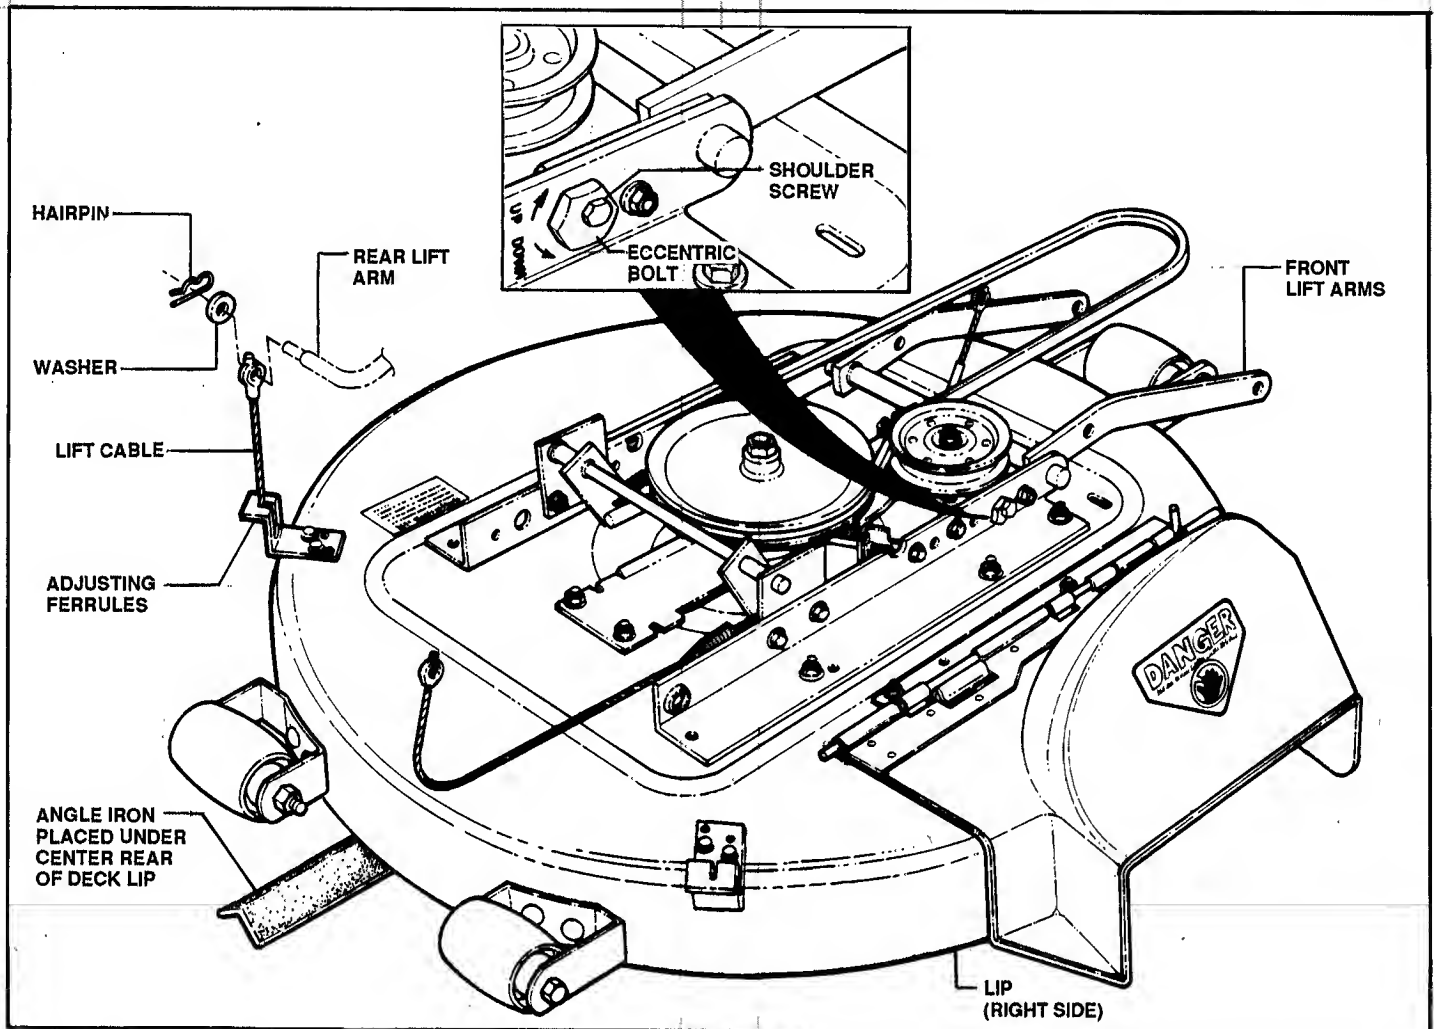

FIGURE 31
- (1) Place a piece of angle iron under lip at center rear of deck. See Figure 31 on Page 13.
- (2) Pull the pins and remove the LIFT CABLES from the REAR LIFT ARMS.
- (3) Measure distance between deck lip (at center of left side) and the floor surface. Compare to the distance from right side deck lip to floor.
- (4) If required, adjust side-to-side level of mower deck by loosening SHOULDER SCREW on side of lift arm ECCENTRIC BOLT. See Figure 31.
- (5) Turn the ECCENTRIC BOLT "UP" or "DOWN" to level deck within 1/8" side-to-side.
- (6) When deck is level, tighten SHOULDER SCREW.
- (7) Re-attach LIFT CABLES to REAR LIFT ARMS.
- (8) If either LIFT CABLE is slack, adjust FERRULES until both cables have equal tension. Recheck deck level. See Figure 31.